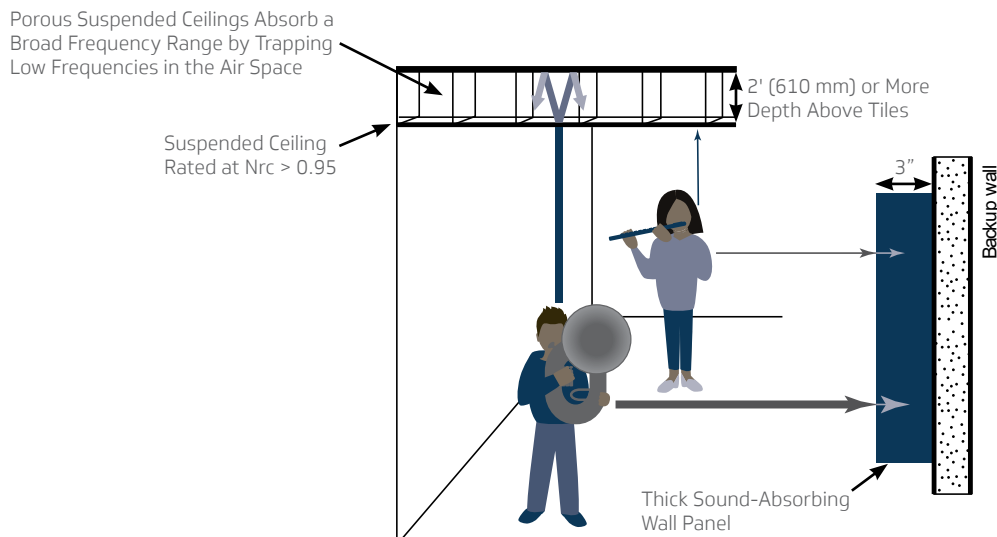

Figure 19
- Replace reflective ceiling tiles with 1" (25 mm) thick acoustically absorptive (rated at NRC 0.95 or higher) fiberglass panels (figure 19). Remember the more space above these panels, the better the low frequency absorption.